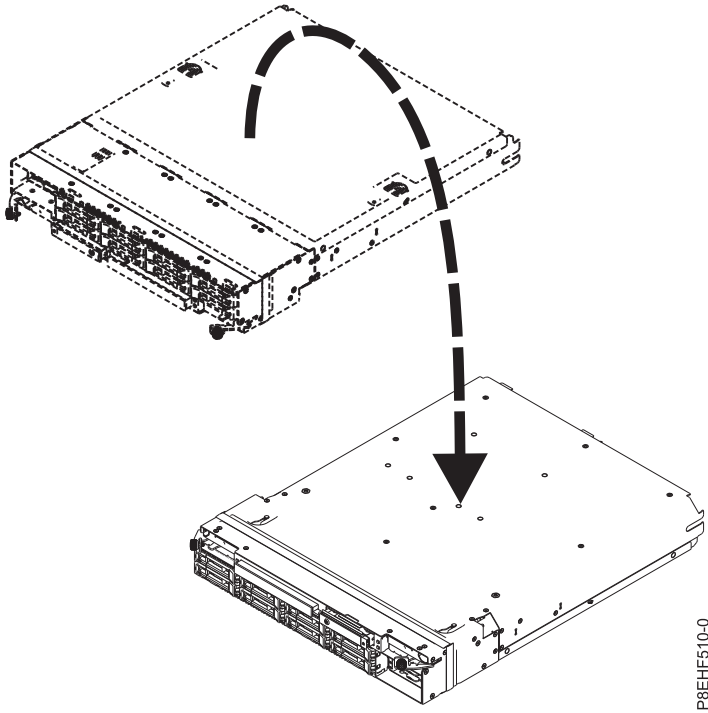

Figure 15. Turning the RAID assembly over
- Turn the RAID assembly over, as shown in Figure 15 on page 12.